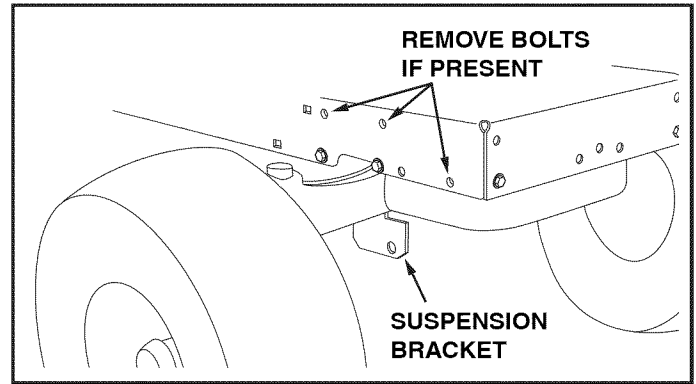

FIGURE 22 RIGHT SIDE VIEW
If your tractor resembles figure 22, go to step 23.
STEP 23: (SEE FIGURE 22)